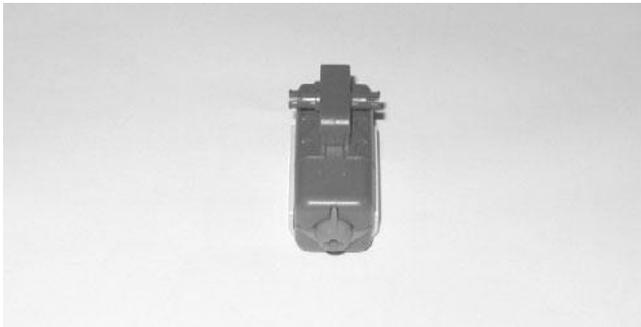

Figure 11.4
Step 1: Place the touch sensor upside down and connect a connector peg with friction 3M to it, as shown in Figure 11.4.